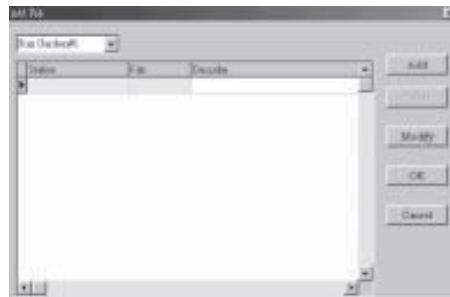

Fig. 4-6 Adding or Modifying FABs Dialogue box 1
1. Click **Monitor>Add/delete FAB** per Fig. 4-5, or click the **quick icon**  in the Toolbar, the dialogue box, as shown in Fig. 4-6 will appear.
2. In the dialogue box, as shown in Fig. 4-6, the Station Name is displayed at the upper left hand corner. If you click **Add**, you can add a FAB in the station. If you click **Delete**, you can delete a FAB in the Station. If you click **Modify**, you can modify the selected FAB.